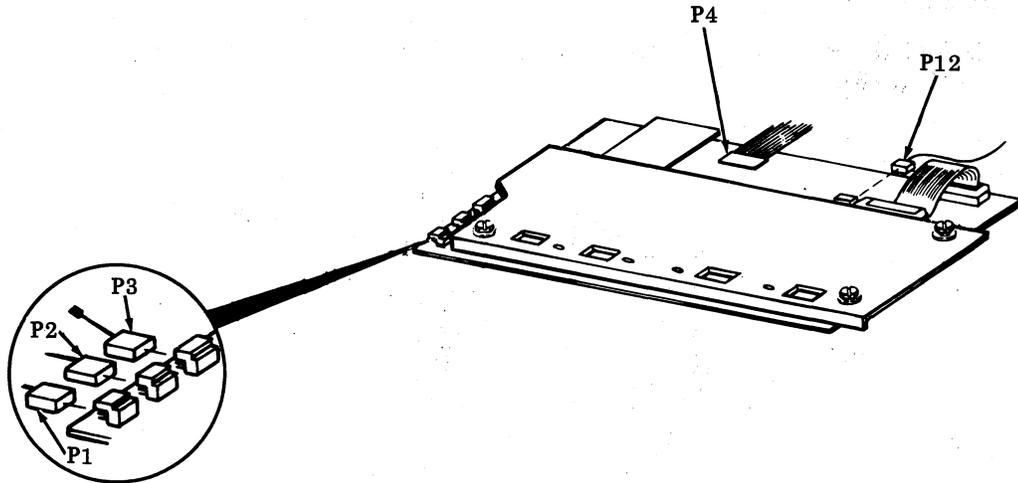

Fig. 40—40C303AA/001 Cable Connections
- (b) 40C303AA/001 (Fig. 40) — Plug in P4 (EIA), P12 (Power), P3 (Power), P2 (Opcon) and P1 (SSI) connectors.